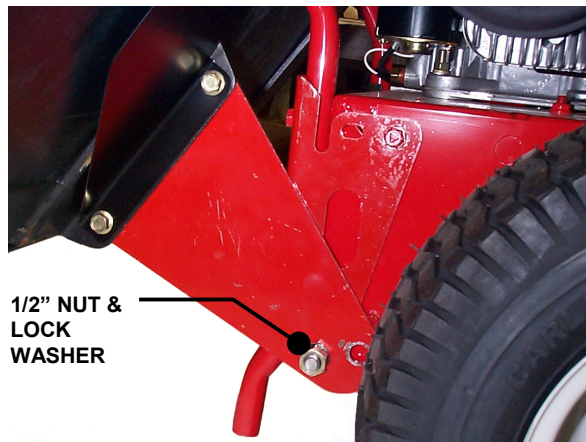

FIGURE 1.6
- C. Align hole in Hitch Plate with hole in Bumper Support. Insert 1/2-13 x 1" hex bolt, with head on inside of frame, through holes. Place one 1/2" Internal Tooth lock washer and hex nut on bolt (washer and nut on outside of frame) and tighten securely. See Figure 1.6.
- E. Attach left end of baffle to Front Cover Assembly. Place (1) 3/16" Flat Washer over #10-24 x 3/4" Flange Lock Bolt and insert from inside cover. Secure with (1) #10-24 Flange Lock Nut. Tighten securely.